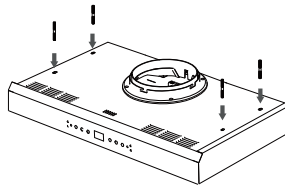

Fig 7
- As shown in Figure 7, take out the spare parts and fix the double-head screws on the body.